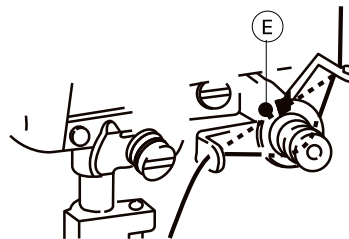

Figure 18
- Ⓓ 标准线程, 请按图18所示实体线。
- For standard threading, follow the solid line of Figure 18.